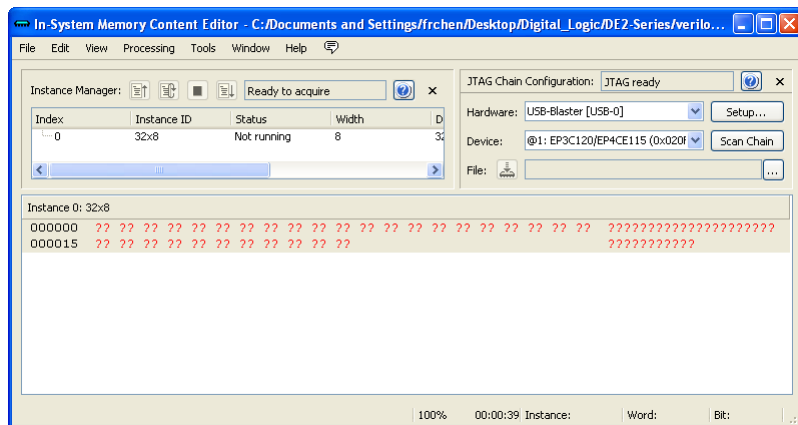
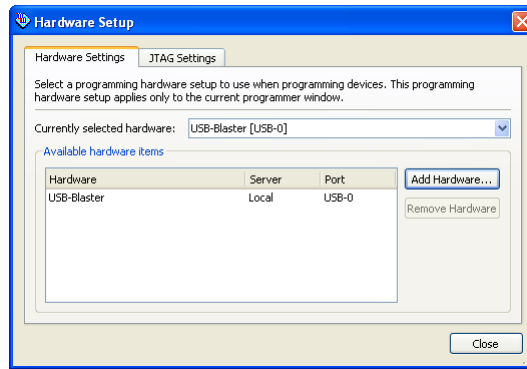

Figure 8: The In-System Memory Content Editor window.
Figure 9: The Hardware Setup window.
5. Select Tools > In-System Memory Content Editor, which opens the window in Figure 8. To specify the connection to your DE2-115 board click on the Setup button on the right side of the screen. In the window in Figure 9 select the USB-Blaster hardware, and then close the Hardware Setup dialog.